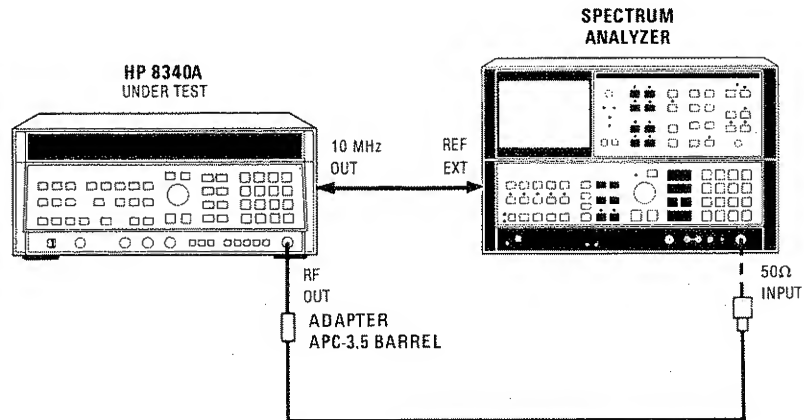

Figure 4-7. Spurious Signals Test Setup (10 MHz to 22 GHz)
1. Connect equipment as shown in Figure 4-7. The position of the 8340A under test can affect spurious responses; therefore, place the 8340A in its normal operating position (i.e., flat on its feet) for this test. Allow at least 30 minute warm up time.